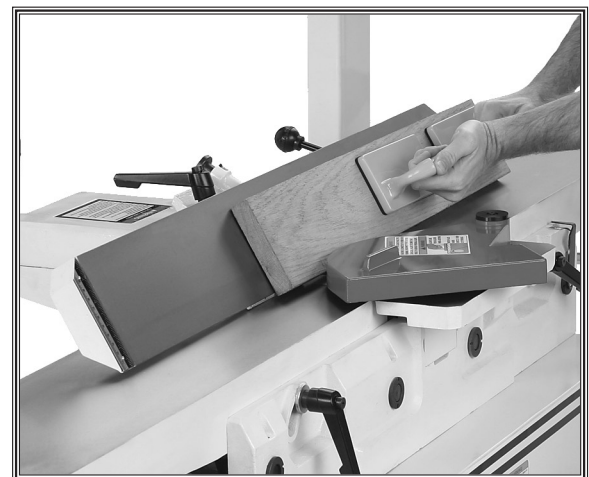

Figure 35. Typical bevel cutting operation.
7. With a push block in your leading hand, press the workpiece against the table and fence with firm pressure, and feed the workpiece over the cutterhead, as in Figure 35.